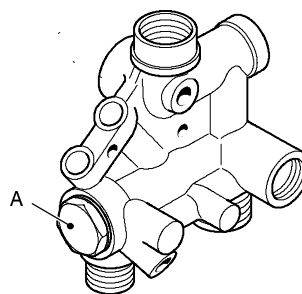

fig. 63
- 2 Unscrew the plug A (fig. 63) and extract the filter.